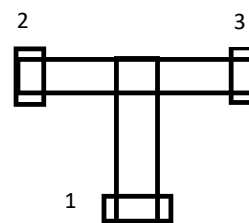

Figure 13: Brine Line 'T'
1. Determine a good length of tube needed by placing the free end of the tube in between the two valves and cut the tube. (you will need enough tube left over to connect the Brine Line 'T' to the brine inlet of both valves). Tighten the tube to position 1 in figure 13 of the Brine Line 'T'.